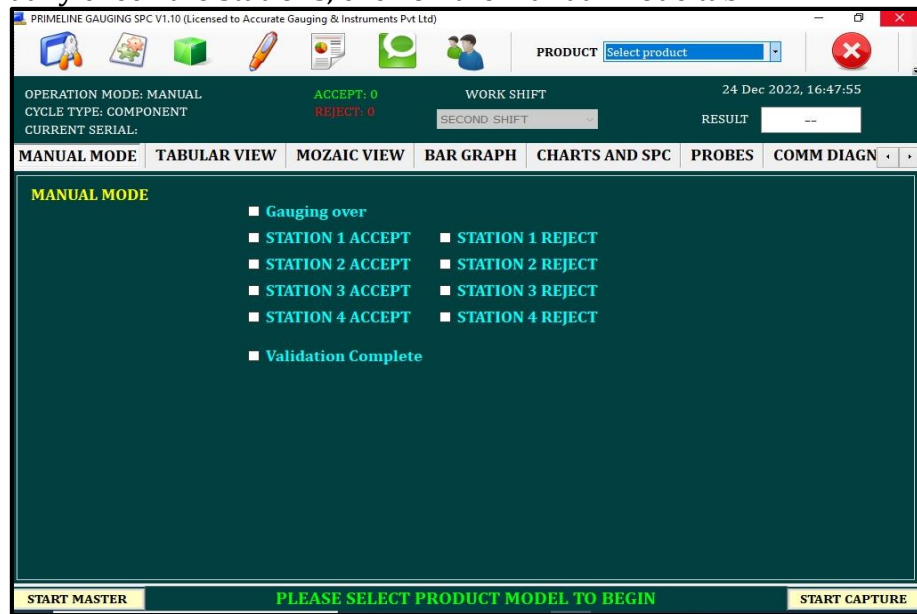

Figure 3
- Click on the Manual mode tab. The following window can be seen in figure 3. To manually check the stations, click on the Manual mode tab.